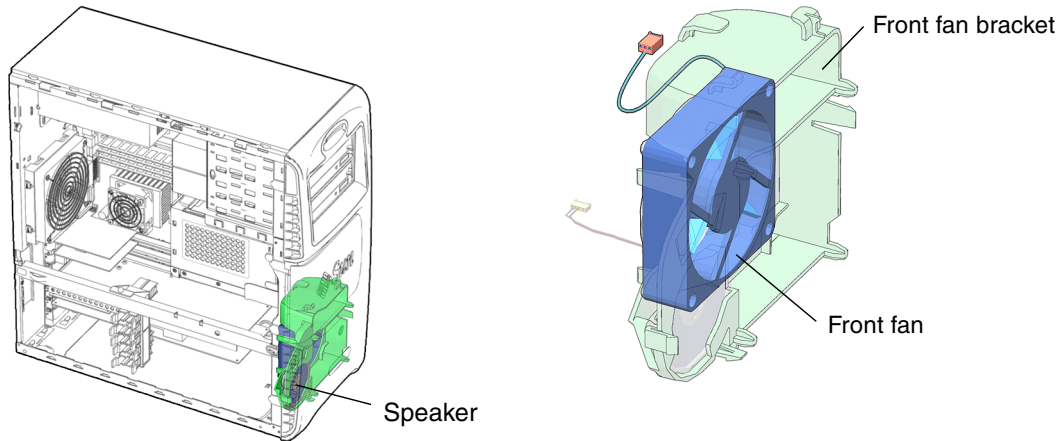
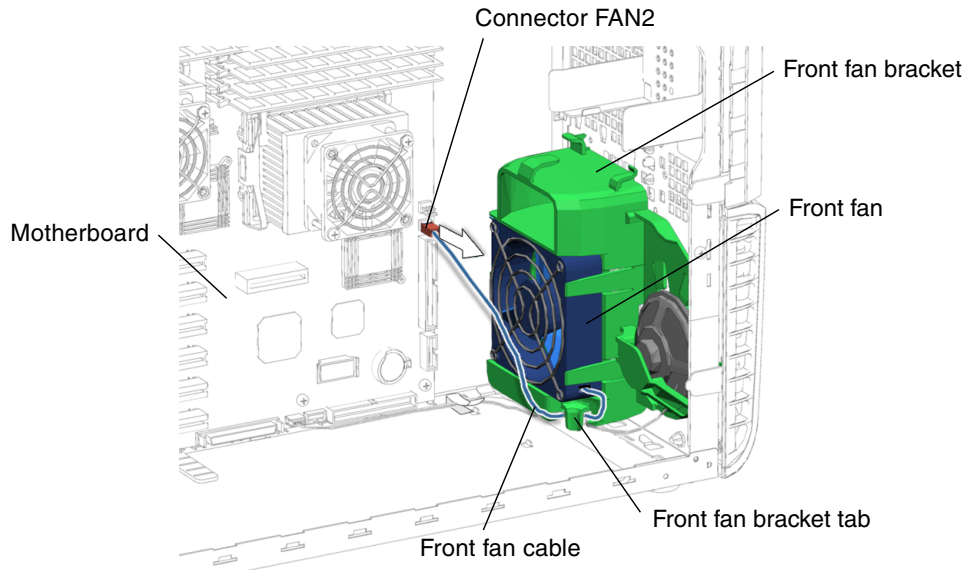

FIGURE 13-11 Front Fan Location and Identification
FIGURE 13-12 Disconnecting the Front Fan Cable
The front fan for the Sun Blade 2500 workstation is housed in a green bracket that also contains the speaker (FIGURE 13-11). To adequately cool the workstation, both front and rear fans must correctly operate. The front fan is connected to the motherboard at connector FAN2 (FIGURE 13-12).
2. Locate the front fan (FIGURE 13-11).
3. Disconnect the front fan cable (FIGURE 13-12).
4. Remove the front fan cable from the front fan bracket (FIGURE 13-12)